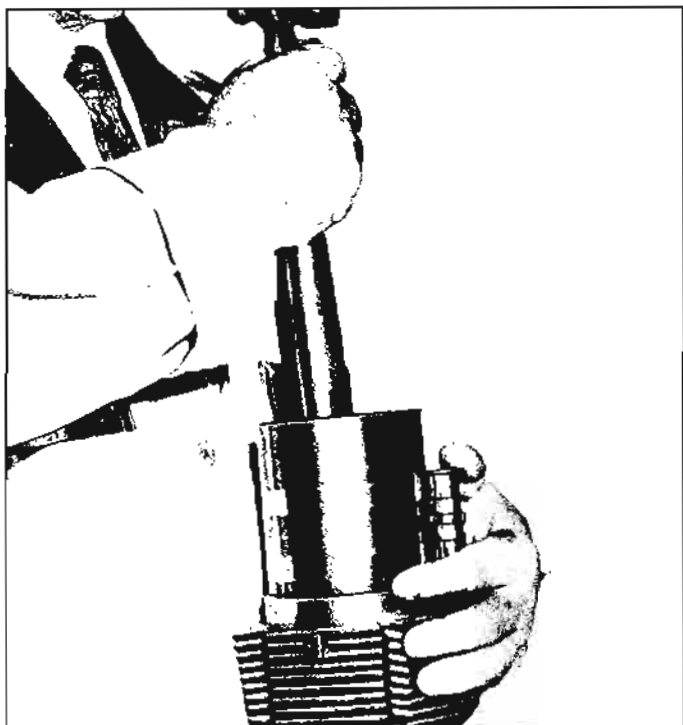

Fig. 6A-97—Installing Piston Assembly, Using Tool J-8037
24. Install a new (copper) cylinder gasket over cylinder pilot (fig. 6A-98). Push piston assembly with a hammer handle, while guiding cylinder bore pilot into crankcase. Remove plastic hose sections from connecting rod bolts. Install connecting rod, bearing, cap and nuts. Torque connecting rod nuts 20 to 26 ft. lbs. Install cylinder holding fixture tubes (used previously on engine disassembly), one long and one short of cylinder studs to hold
cylinder in place. Continue procedure until all cylinders and pistons are installed. Refer to Figures 6A-42 and 6A-98.